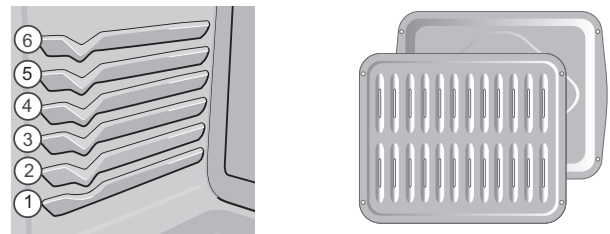

Figure 12: Rack positions (L) Broil pan and insert (R)
- When baking using two oven racks, position cookware as shown in Figure 12. Allow at least 2 inches (5 cm) of space between cookware for proper air circulation.